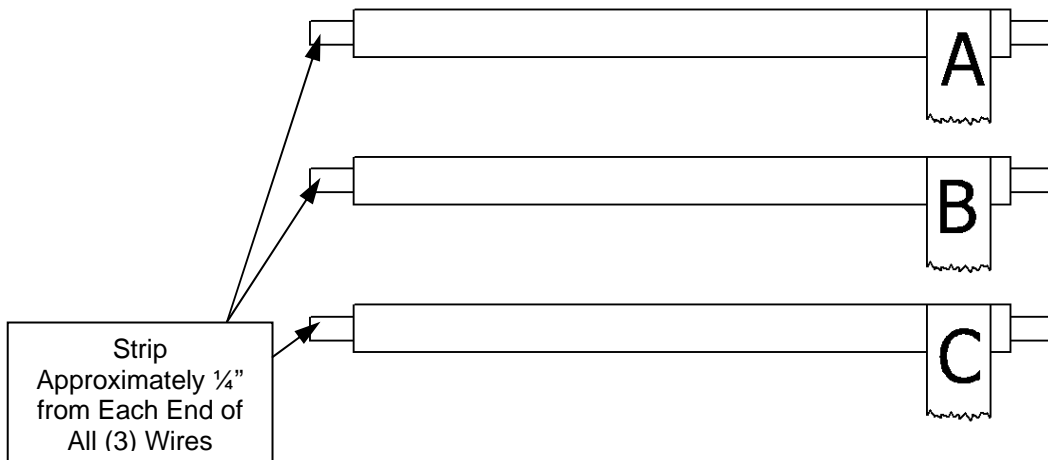

Figure 13
Step 7: Strip approximately $\frac{1}{4}$ " of the wire's insulation from each end of the three wires. This is shown in Figure 13.